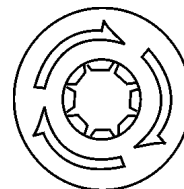

Figure 61. Emergency Stop Button
1. To stop the engine in the event of an emergency, **PUSH** the emergency stop button (Figure 61) inward. This button is located on the engine operating panel, see Figure 5.